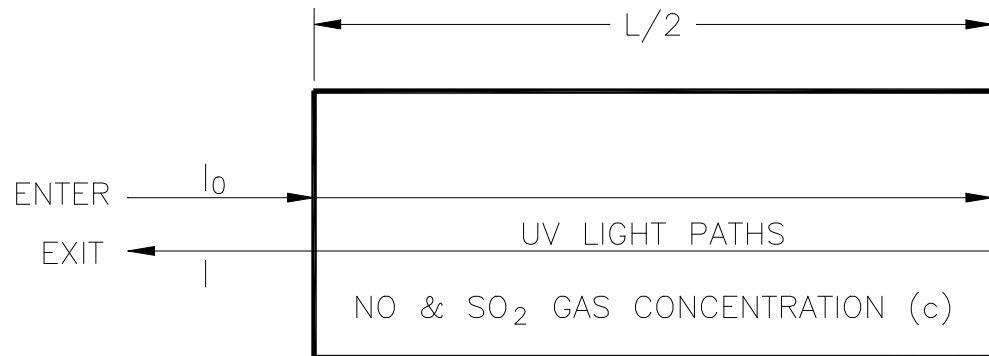

Figure 9-1: Gas Measurement Cavity
In the SM8200 gas measurement cavity, ultraviolet (UV) light traverses through a constant length absorption medium (Figure 9-1). Whenever NO or SO₂ exists in the cavity, absorption of UV light occurs. The ideal theoretical mathematical relationship between these physical quantities is expressed by Beer-Lambert equation: